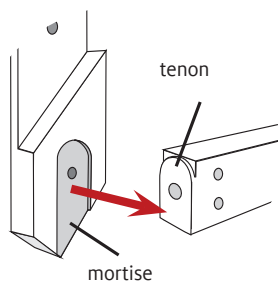

FIGURE 3: REAR LEG BRACE AND HEIGHT EXTENDER BLOCK
5. Attach the LO and RO height extender blocks to the rear leg brace by inserting the tenon of the brace into the mortise of the height extender blocks (Figure 3). Secure the height extender blocks with the hardware from Step 4: insert a 1/4-20 x 3" Phillips truss head machine screw through the bottom hole of the height extender block and thread it into a barrel nut inserted into the rear leg brace. Hold the barrel nut in position with a slotted screwdriver. Repeat for the other height